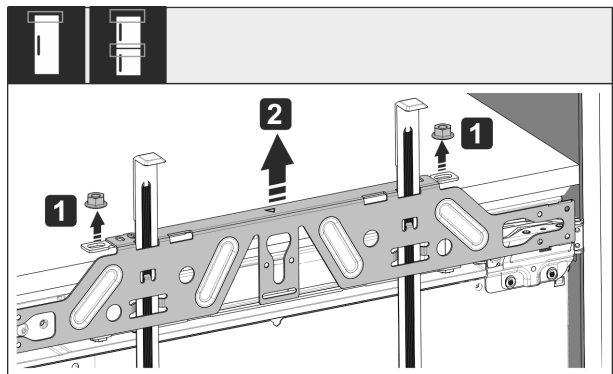

Fig. 52
▶ Loosen locknuts Fig. 52 (1).
▶ Remove crosspiece Fig. 52 (2).